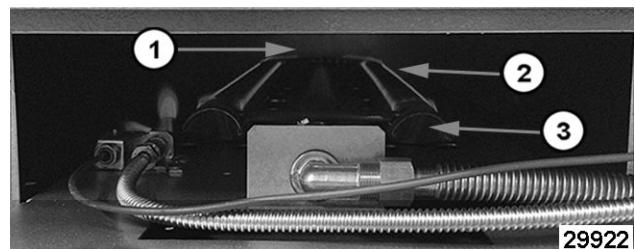

Fig. 82
4. Observe burner flame. The flame should be approximately 1/8" and stable on each port as shown in Fig. 82.
By-Pass Flame shown in Fig. 82